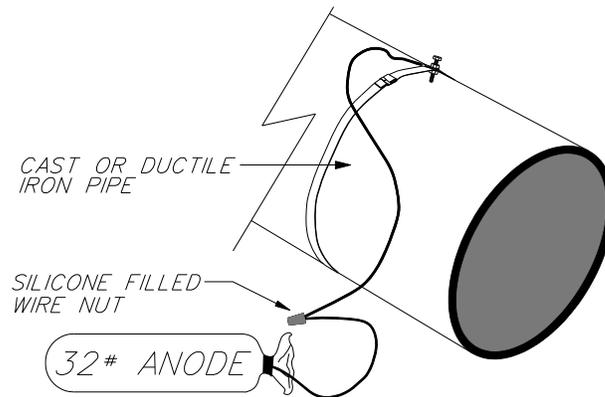

FIG 14
14. Screw on connector, pushing wires firmly through the pie shaped cap. No copper wire should be left exposed outside of the connector cap. See Fig 14.